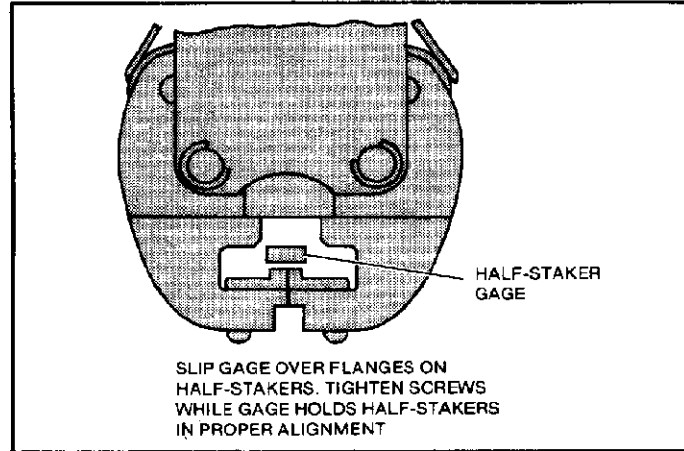

Figure 7
- (e) Slip gage over flanges on half-stakers. See Figure 7.